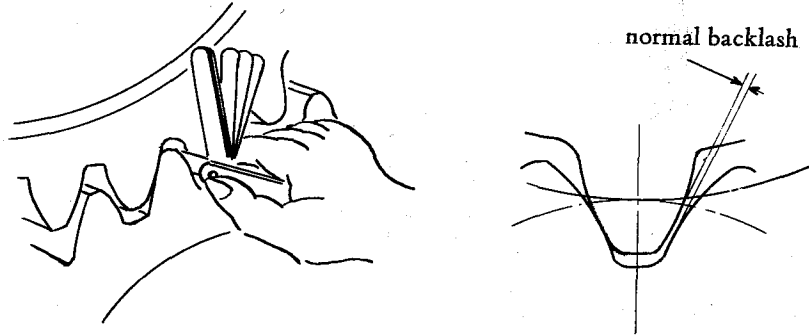

Fig. 5
- (1) Place two shafts parallel to each other, and decide a center-to-center distance of the shafts in such a manner that a proper backlash (module  $\times 0.05$  0.1mm) is kept constant all along the tooth trace when the gear is put in mesh with a driven gear. (Fig. 5)